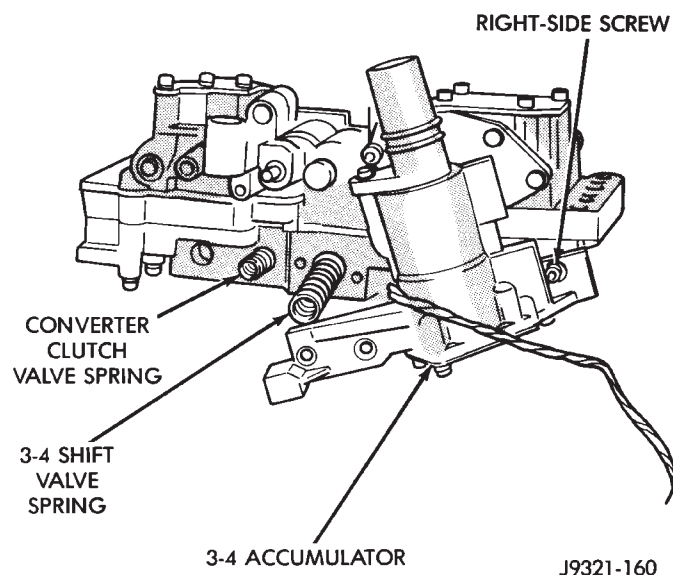
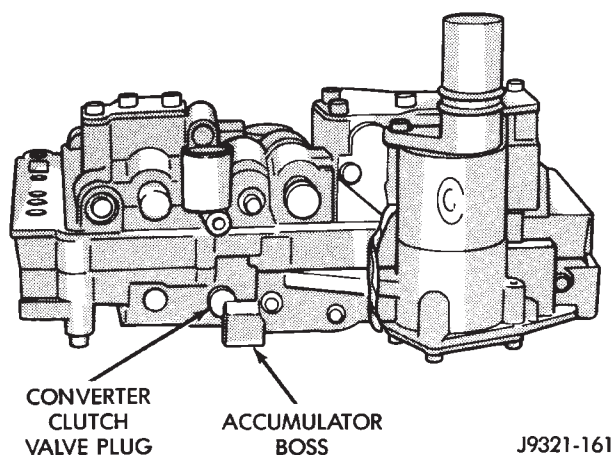

Fig. 122 Installing Converter Clutch And 3-4 Shift Valve Springs—46RH
Fig. 123 Seating 3-4 Accumulator On Lower Housing—46RH
- (1) Position converter clutch valve and 3-4 shift valve springs in housing (Fig. 122).
- (2) Loosely attach accumulator housing with right-side screw (Fig. 122). Install only one screw at this time as accumulator must be free to pivot upward for ease of installation.
- (3) Position plug on end of converter clutch valve spring. Then compress and hold springs and plug in place with fingers of one hand.
- (4) Swing accumulator housing upward over valve springs and plug.
- (5) Hold accumulator housing firmly in place and install remaining two attaching screws. Be sure springs and clutch valve plug are properly seated (Fig. 123).